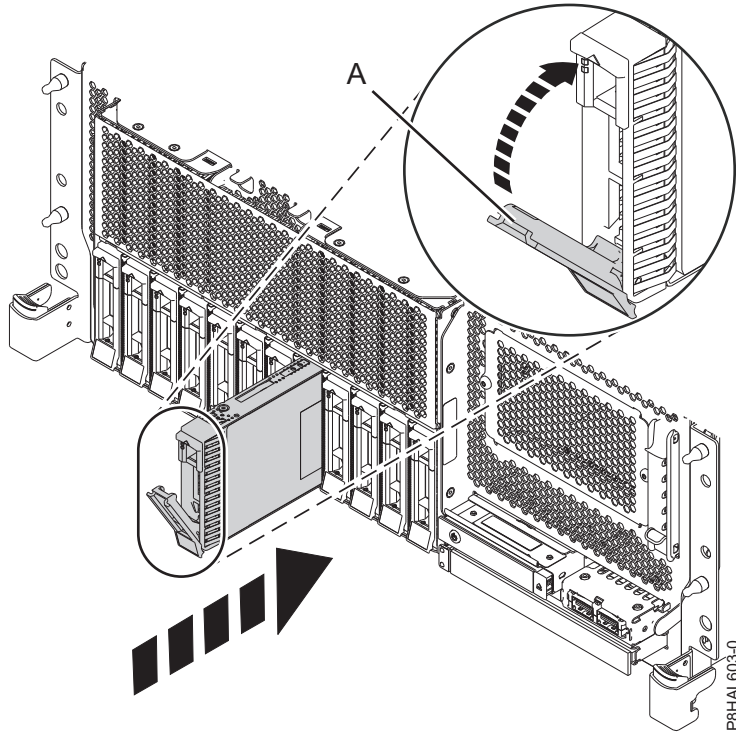

Figure 125. Replacing a disk drive in a rack-mounted base function system
4. Unlock the drive bay handle (A) by pressing it and pulling it out toward you. If the handle is not all the way out, the drive does not slide into the system. See Figure 125 on page 135, Figure 126 on page 135, Figure 127 on page 136, and Figure 128 on page 137.
8. When the identify LED flashes for the selected slot, slide the drive all the way into the slot, and push the drive bay handle (A) in until it locks, as shown in Figure 125 on page 135, Figure 126 on page 135, Figure 127 on page 136, and Figure 128 on page 137.